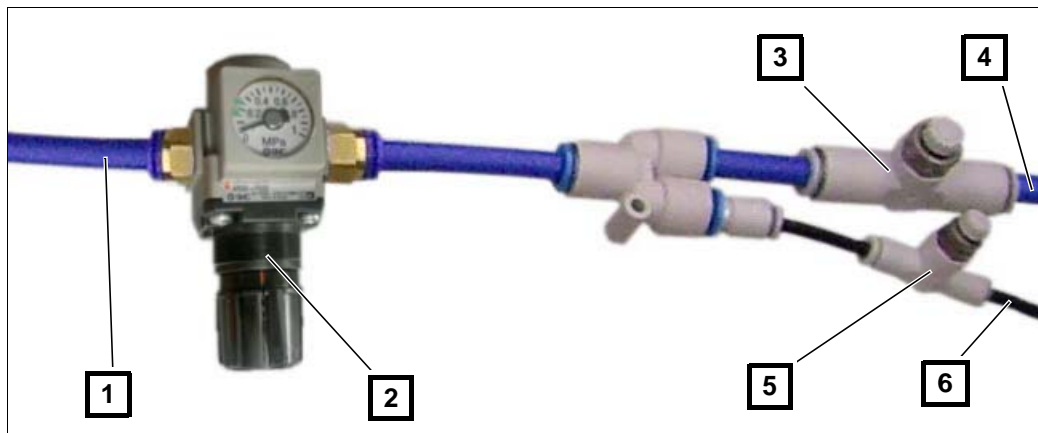

Figure 4.11 The Gas Flow Reduction
25. Connect the pressure regulator to compressed air(see [Figure 4.11 \[1\]](#))
26. Connect the BCU I with the blue 8mm hose to chiller gas outlet (see [Figure 4.11 \[4\]](#)).
27. Connect the coupler with the black 4mm hose to the coupler gas outlet (see [Figure 4.11 \[6\]](#))